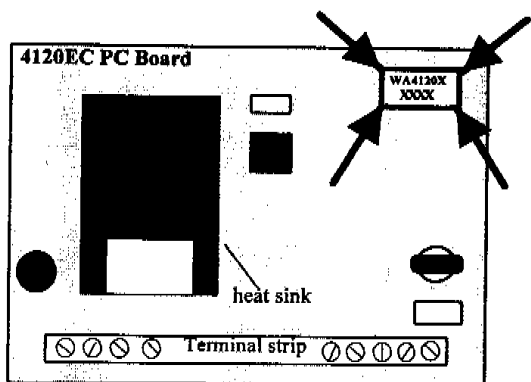

Figure 1
4120EC controls manufactured before 1/10/93 (Date Code S010), with software prior to WA4120-13, are not compatible with the 4137AD "addressable" keypad. Controls that ARE compatible have the revision number "WA4120-13" and date code "2713" written on the control's EPROM (Electrically Programmable Read Only Memory). See figure 1 on the reverse side of this document to locate this EPROM on the 4120EC's circuit board.
3. As depicted in the figure 1, locate the existing 4120EC EPROM (indicated by the large dark arrows).
5. Carefully insert the new EPROM into the empty socket. Be sure to correctly orient the EPROM with the "notch" pointing toward the left as shown in figure 1. Be careful not to bend or break any of the EPROM legs while inserting it.